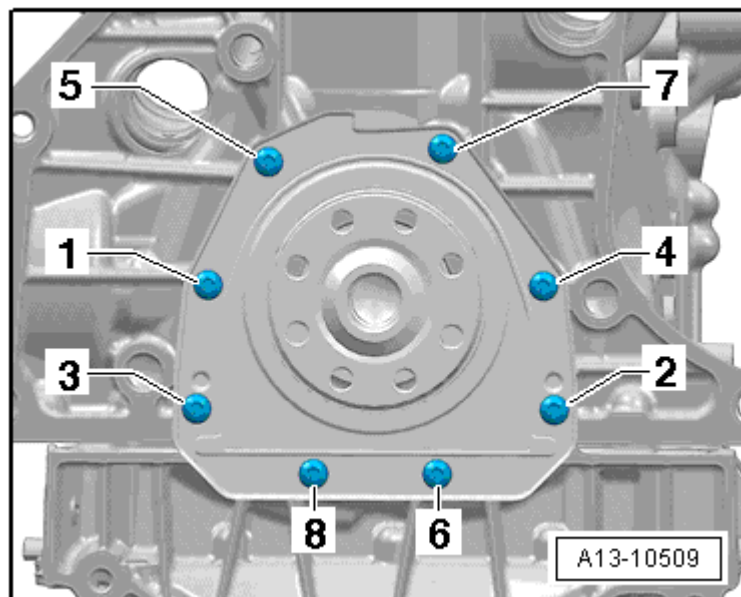

Fig. 10: Identifying Sealing Flange Tightening Sequence
- For the tightening sequence and tightening specification, refer to **Fig. 10**.